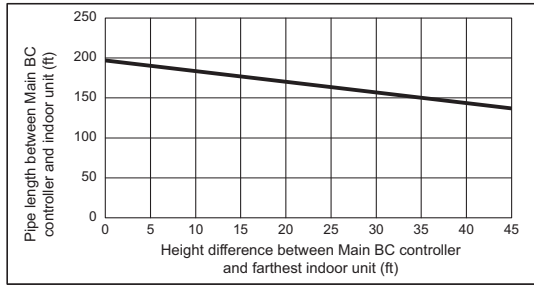

Fig. 2
*9. When the piping length or the vertical separation exceeds the limit specified in Fig. 2, connect a sub BC to the system.
When using indoor models P54 or larger, the restrictions shown in Fig. 2 cannot be exceeded.
The restriction for a system with a sub BC connection is shown in Fig. 3. When a given system configuration falls within the shaded area in Fig. 3, increase the size of the high-pressure pipe and the liquid pipe between the main BC and sub BC by one size. The maximum liquid branch pipe diameter is $\phi 19.05$. If a given system already has a $\phi 19.05$ -pipe between the main BC and sub BC, there is no need to increase the pipe size. When using P12, P15, P18, P36, or P48 model of indoor units, increase the size of the liquid branch pipe between the sub BC and indoor unit by one size. When using indoor models P54 or larger, the restrictions shown in Fig. 2 cannot be exceeded.